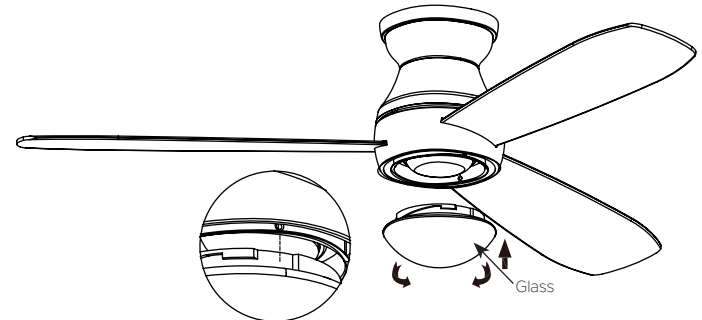

Fig. 16
**Step 3.** Secure the glass to light kit assembly and twist clockwise. Do not over-tighten.(Fig. 16)